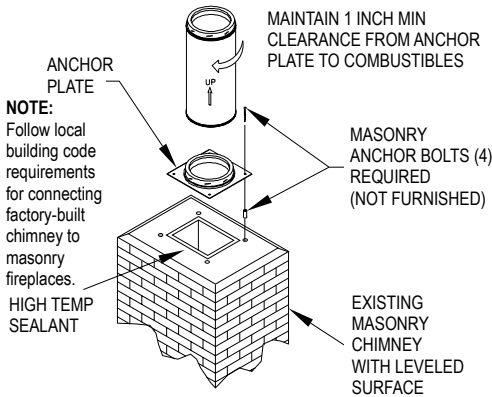

Figure 30
Plate. If the top of the masonry does not have a level surface, then you will need to modify the masonry accordingly. Follow the requirements of your local building department for connecting factory-built chimneys to masonry fireboxes or masonry chimneys. Center the Anchor Plate over the masonry flue opening, and seal the Anchor Plate with a high-temperature (1000°F) sealant. Secure Anchor Plate with at least (4) 1/4" x 4" masonry anchors (**Fig 30**). It is very important that the Anchor Plate is level. *Be sure to maintain a 1" min. clearance to combustibles from the Anchor Plate.*